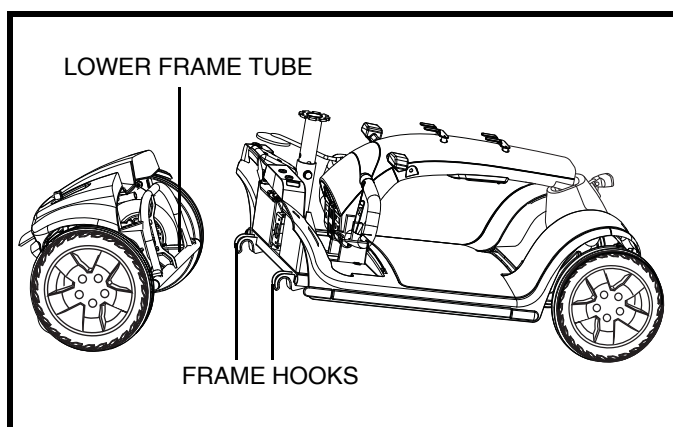

Figure 23. Frame Separation
4. Lift the front section up until the frame hooks of the front section separate from the rear section. **See figure 23.**
5. Slowly separate the two sections. **See figure 23.**
1. Position the front and rear sections of your scooter as shown in **figure 23**.